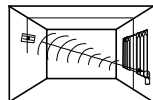

Fig. 3
For optimal performance the Wireless VITRON should be mounted as nearly opposite to the glass area to be protected, as shown in Fig 3.
- **Opposite Wall – Mounted** (For optimal results, Wireless VITRON is centered opposite glass, see Fig. 3).